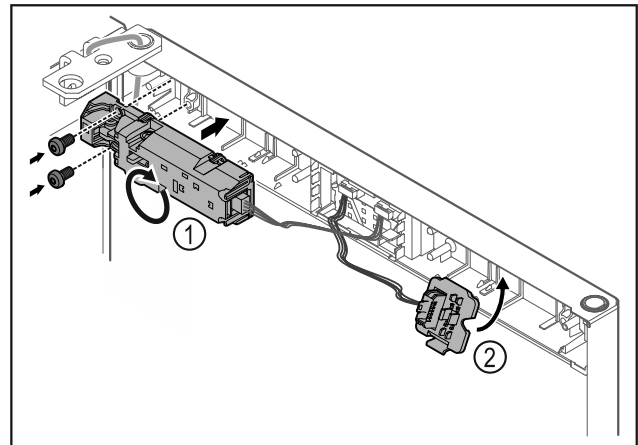

Fig. 19
- Turn the remote lock Fig. 19 (1) by 180° and fasten it on the opposite side.
- Snap in the plug holder Fig. 19 (2) on the opposite side.